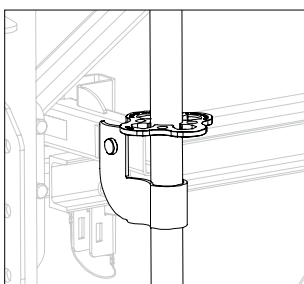

Fig. B6.02a
1. Place Standard UVR 300 (46.1) (for VST 175: standard UVR 150 (46.2)) with the rosette on the Connector UP-VST (38).
2. Mount retaining lug (38.1) to the bottom Connector UP-VST (38) using Bolts \varnothing 20 x 140 (39) and secure with Cotter Pins 4/1, galv.
3. Mount retaining lug (38.1) to the top Connector UP-VST (38) using Bolts \varnothing 20 x 140 (39) and secure with Cotter Pins 4/1, galv.
Here, the rosette has to rest on the Connector UP-VST (38) in order to safely transfer the forces. (Fig. B6.02a)